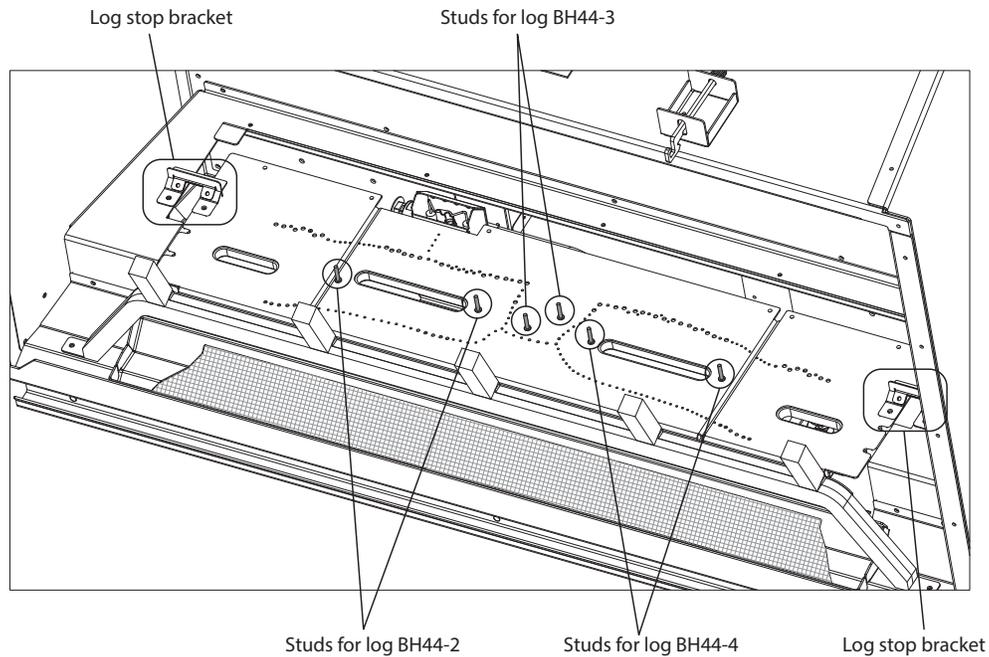
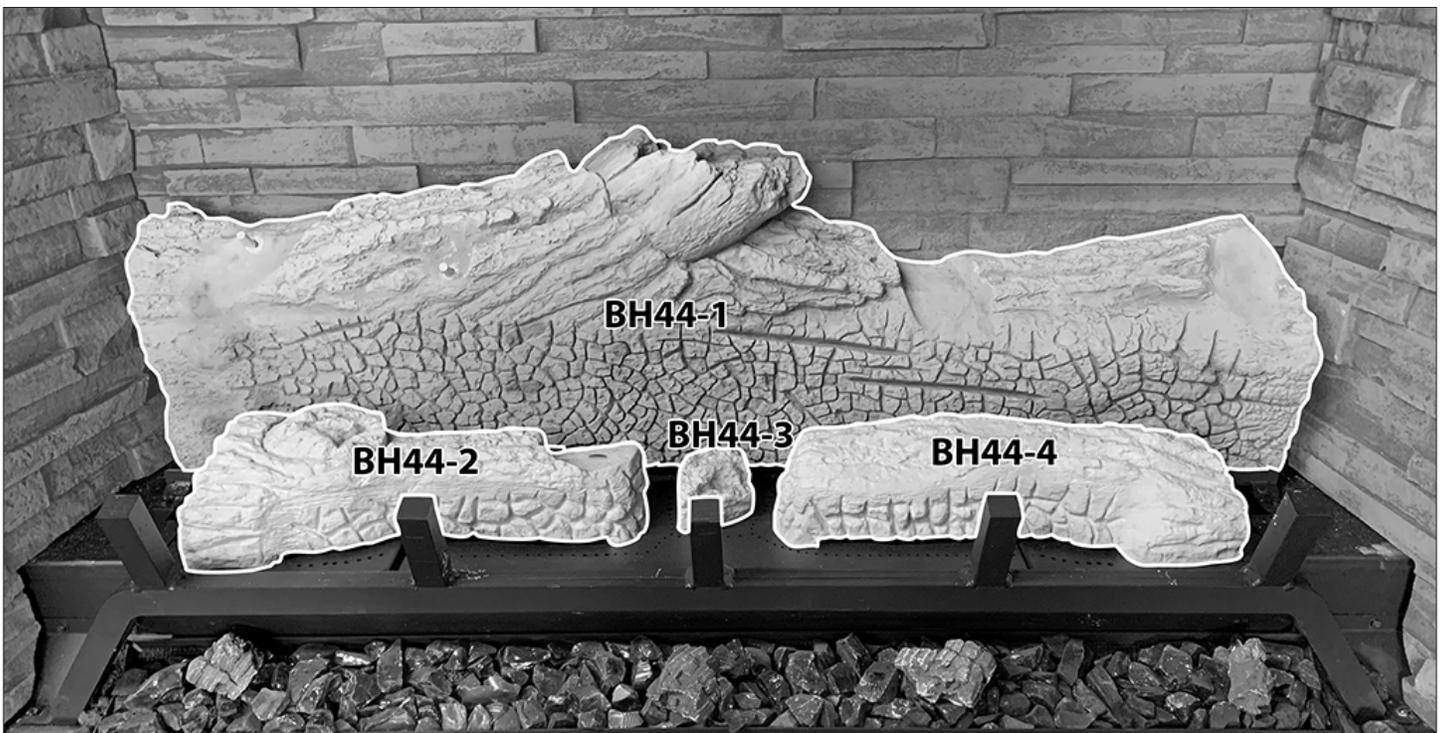

Figure 8.6, Burner Stud Locations and Log Stop Brackets
Figure 8.7, Base Logs
1. Using both hands, place log BH44-1 at the rear of the firebox, as shown in Figure 8.7. Slide the log forward until it rests against the log stop bracket flanges (Figure 8.6).
2. Align the holes in the bottom of logs BH44-2, BH44-3, and BH44-4 with the corresponding studs located on the burners. See Figure 8.6 for burner stud locations.